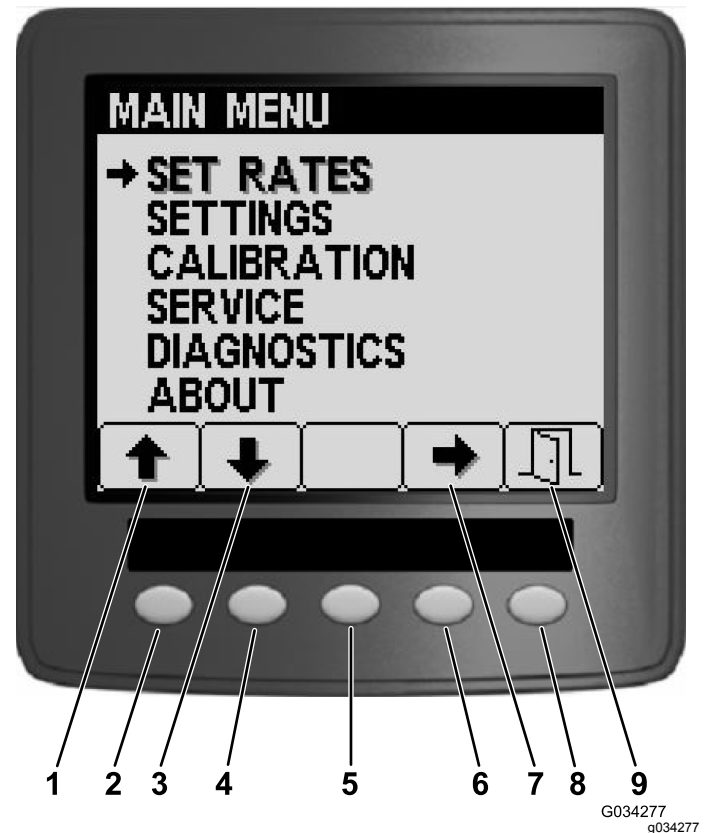
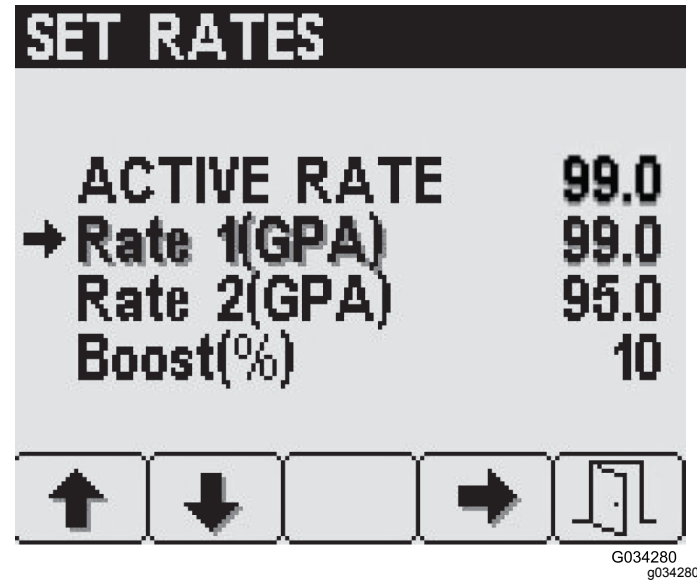
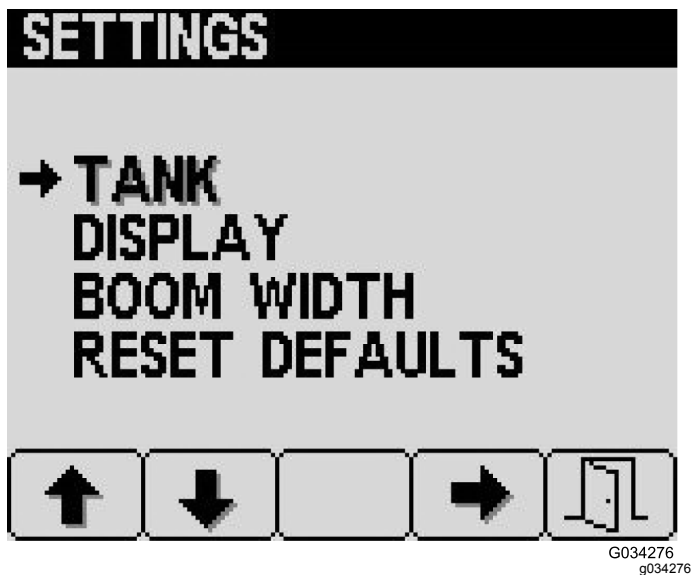

Figure 16
Figure 17
Figure 19
From the Main Menu screen, you can access the Set Rates screen, Settings screen, Calibration screen, Service screen, Diagnostics screen, or the About screen (Figure 16).
To access the Set Rates screen, press button 2 on the Main Menu screen (Figure 16) until you reach Set Rates and press button 4 to select Set Rates (Figure 17).
- 1. Press button 1 or 2 until you reach the desired rate or boost-rate percentage (Figure 17).
To access the Settings screen, press button 2 on the Main Menu screen (Figure 16) until you reach Settings and press button 4 to select Settings (Figure 19).
1. Press button 4 on the Settings screen to select Tank settings (Figure 19).
1. Press button 2 on the Settings screen until you reach Display settings and then press button 4 to select Display (Figure 19).
The boom-width settings are pre-populated at the manufacturing plant (Figure 19).